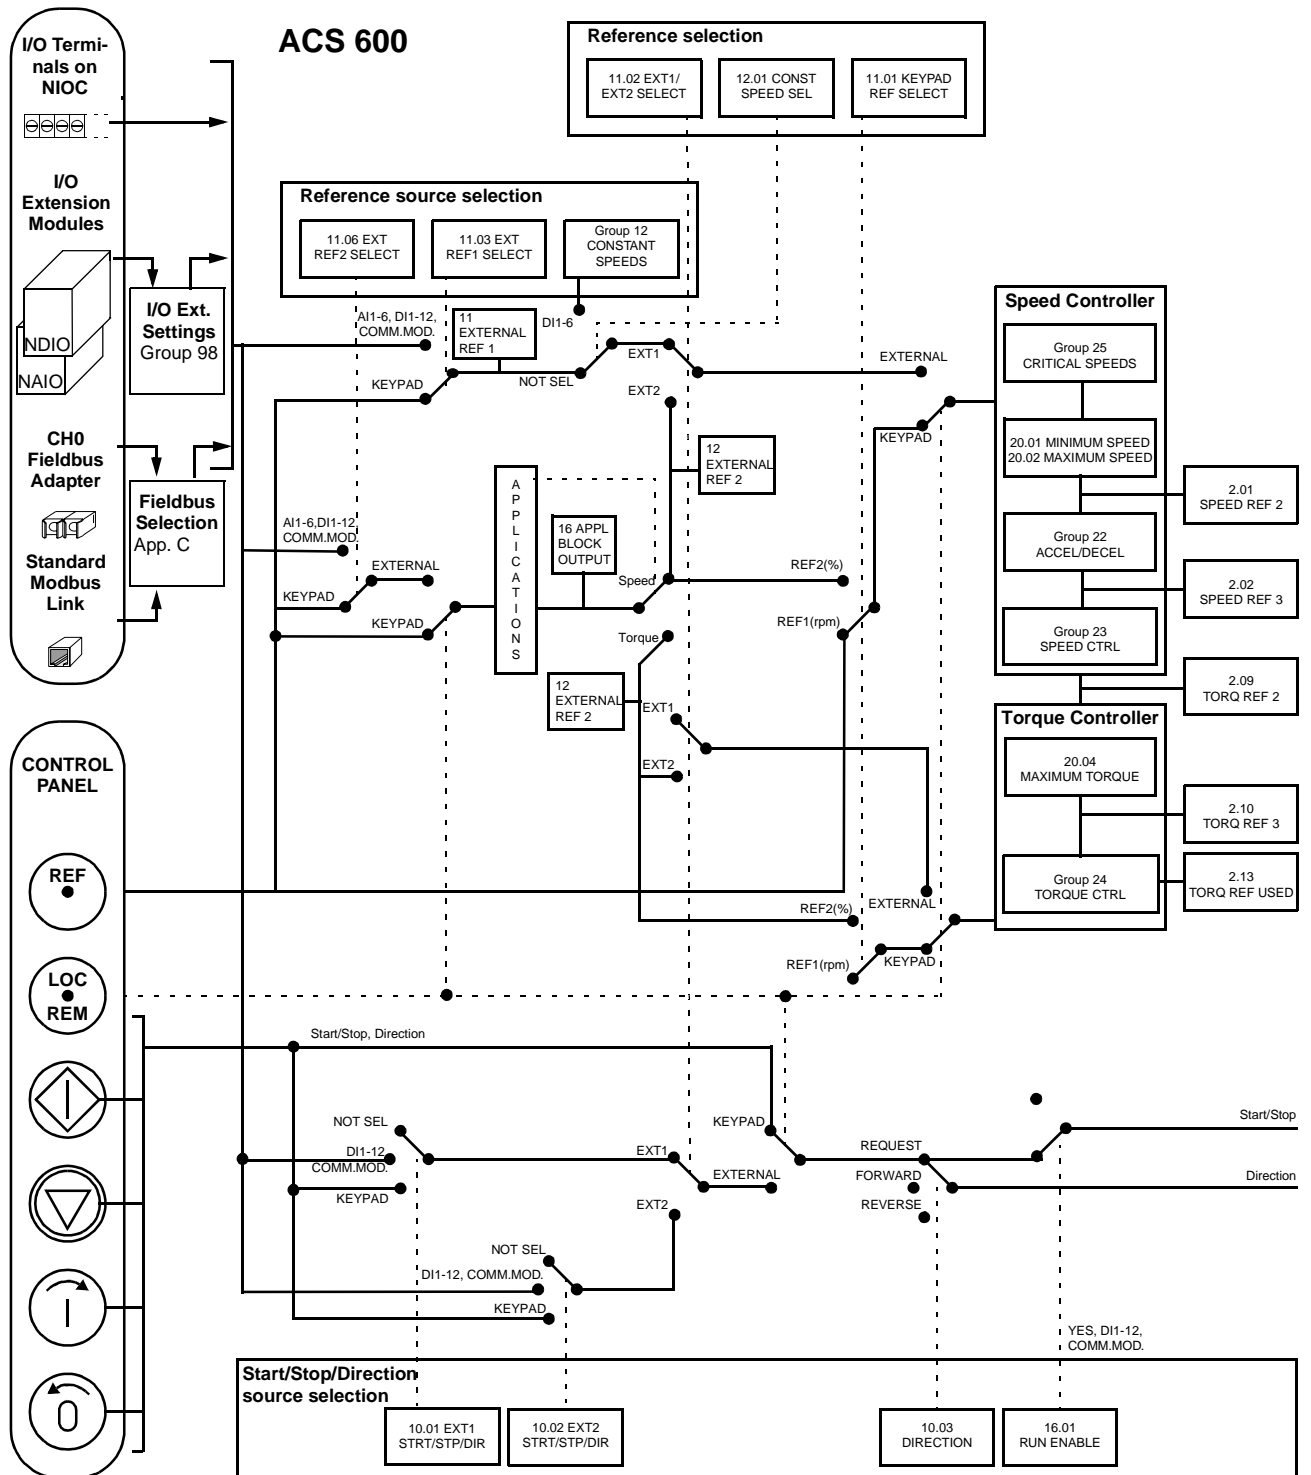

Figure 4-3 Selecting control location and control source.
**Group 2 Actual Signals** By the Group 2 Actual Signals it is possible to monitor the processing of speed and torque references in the drive. For the signal measuring points see Figure 4-3, or the Control Signal Connections figures of the Application Macros (*Chapter 5 – Standard Application Macro Programs*).